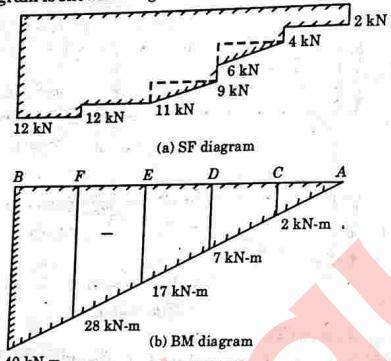

Fig. 2.12.2.
- SF diagram is shown in Fig. 2.12.2(a)